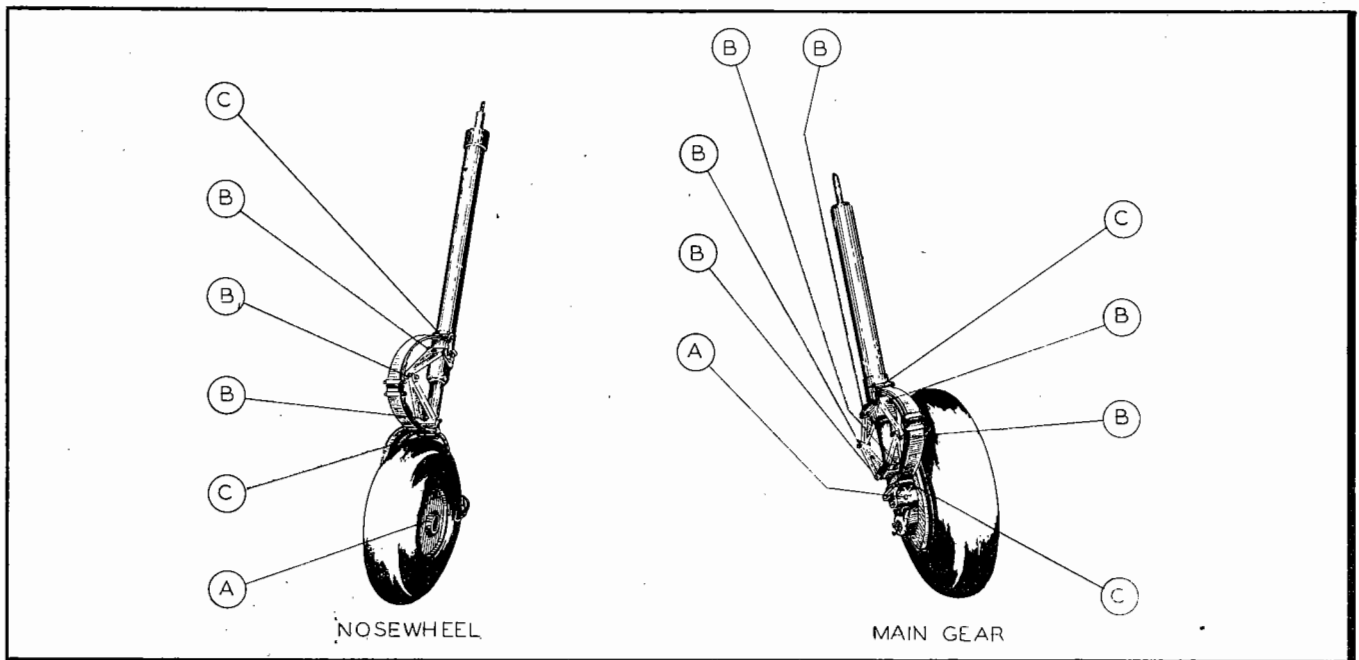

Figure 27—Landing Gear Lubrication
d. ALIGHTING GEAR.—Each set of torque links is provided with three Alemite fittings. Grease these at 25-hour inspection periods with Specification No. AN-G-5. The taper roller bearings in the wheels should be inspected at 100-hour intervals and repacked if necessary with grease, AAF Specification No. 3560, medium grade. (See figure 27.)
Key to Figure 27